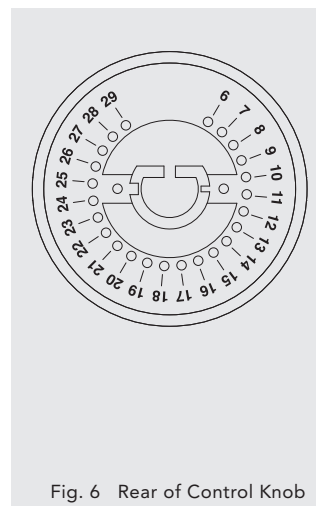

Fig. 6 Rear of Control Knob
3. Position the stops housed in the central part of the inside of the knob in the holes that correspond to the chosen maximum and minimum temperatures. See fig 6.